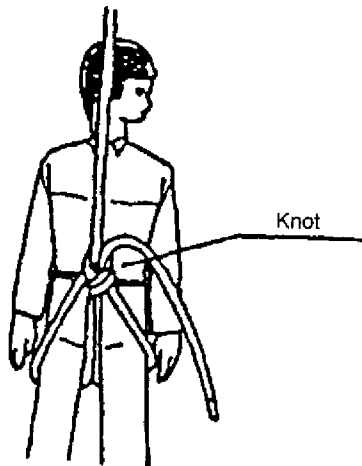

Fig. 3-52-3
- (c) Place both legs into the loops of the bowline. (Fig. 3-52-3)